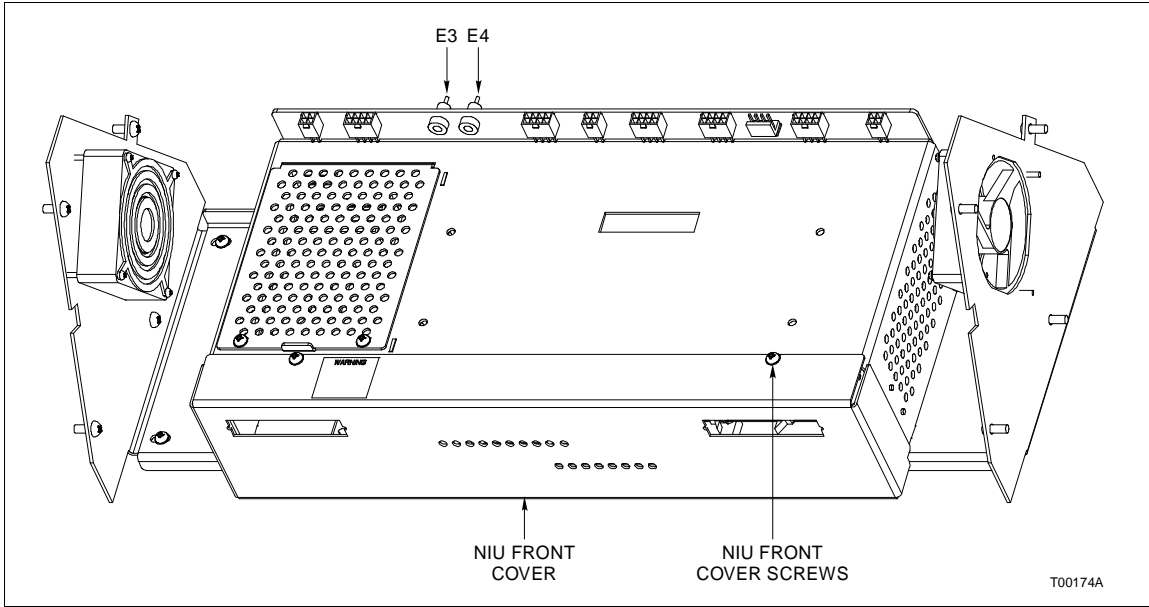

Figure PR34-1. NIU Card Cage with Covers Installed
- 3. Use the Phillips head screwdriver to remove the two NIU front cover screws (Fig. PR34-1).